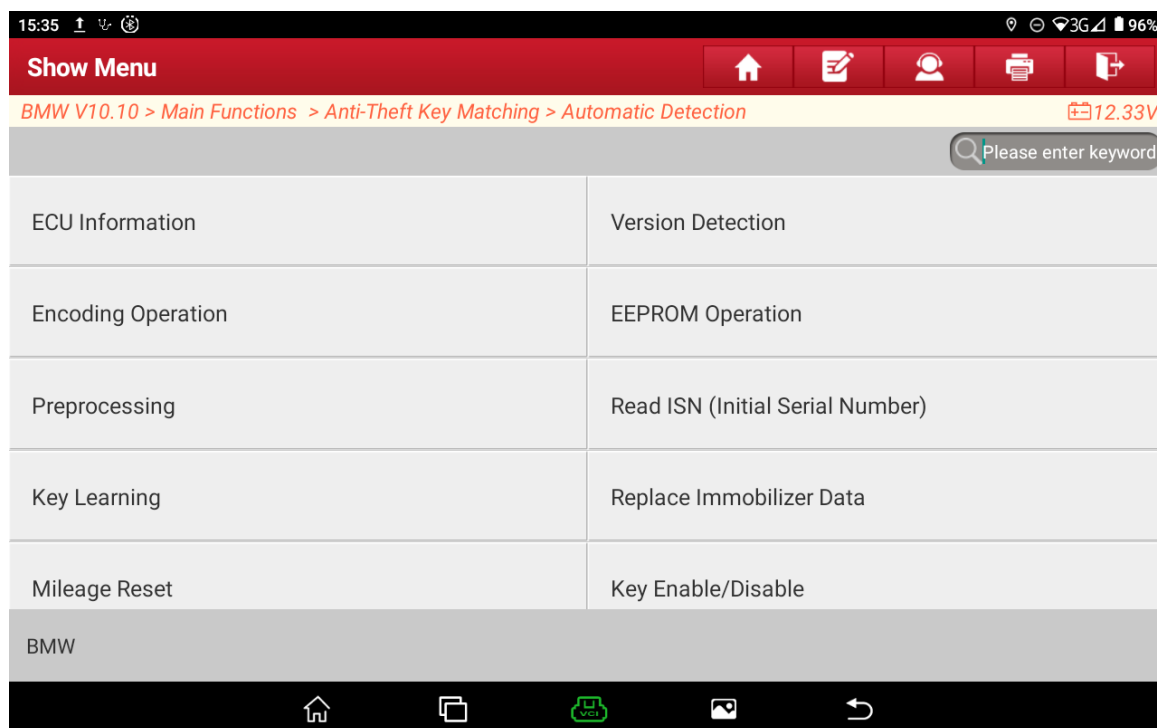

Figure 27
27. Select **【EEPROM Operation】**, as shown in Figure 27.